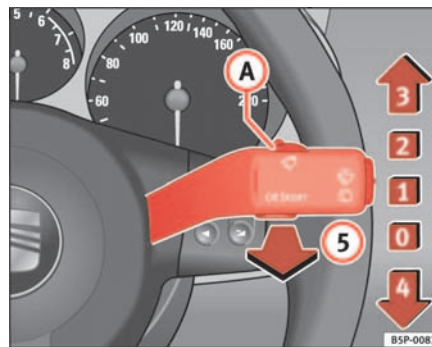

Fig. 81 Windscreen wiper and windscreen wash lever
The windscreen wiper lever ⇒ page 116, fig. 81 has the following positions:
- The next speed down will automatically be selected if speed ② ⇒ page 116, fig. 81 or ③ is selected when the vehicle stops. The set speed will be resumed when the vehicle starts again